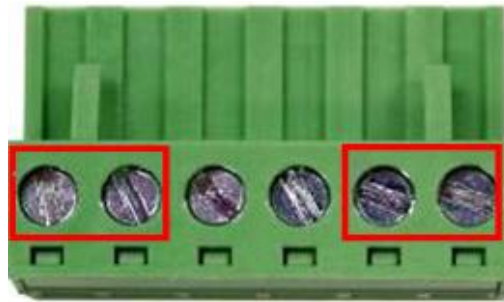

Figure 2.15: Power Terminal Block
Step 2 Tighten the wire-clamp screws to prevent the wires from loosening, as shown below in Figure 2.15.